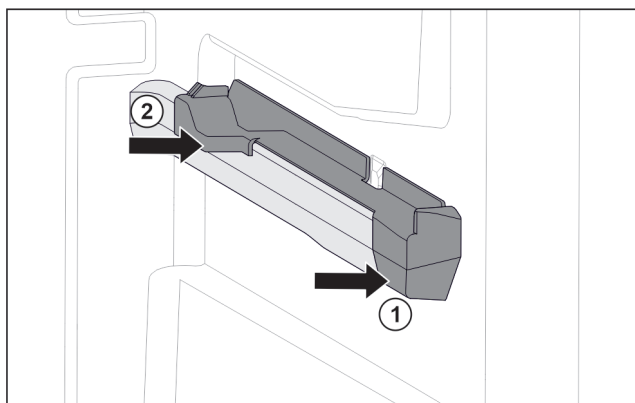

Fig. 63 Attachment on the right moulded rib
- Position attachment on moulded rib at the front. Fig. 63 (1)
- Press on attachment at the back. Fig. 63 (2)